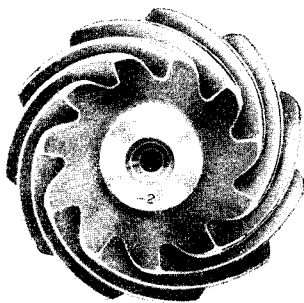
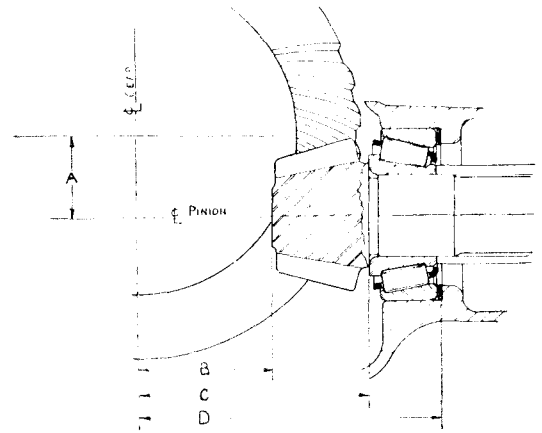

Figure 39. PINION MARKING.
Figure 40. PINION SETTING DIAGRAM
The rear axle pinion should be adjusted properly before further rear axle assembly is attempted. The ground end of the pinion is marked with the correct pinion setting (Fig. 39). This marking may be zero (0), a minus (-) or a plus (+). When properly adjusted a pinion marked zero (0) will be at the zero cone setting distance from the centre line of the gear; a pinion marked plus two (+2) should be adjusted to the nominal cone setting distance, plus .002", and a pinion marked minus two (-2) to cone setting distance minus .002" (See Fig. 40).